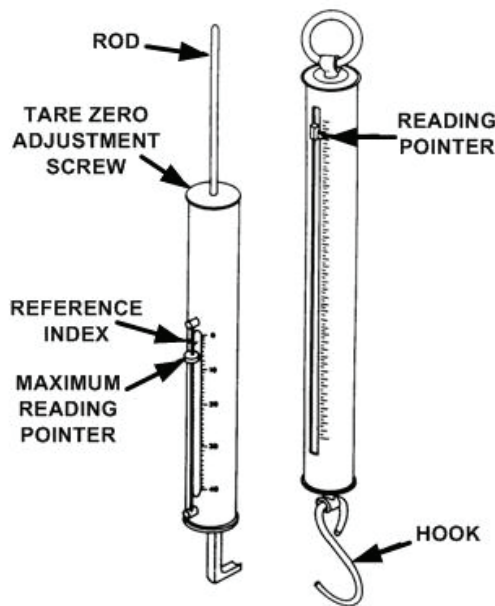

Figure 1. Typical resiliency testers.
**1. Test Instrument Identification.** This bulletin provides instructions for the calibration of Resiliency Testers (General) (figure 1). The manufacturer's manual was used as the prime data source in compiling these instructions. The equipment being calibrated will be referred to as the TI (test instrument) throughout this bulletin.
(1) Adjust tare zero adjustment screw (fig. 1) for a zero indication on TI.
(2) Remove pin from torque calibrator for weights up to 20 pounds, or for weights between 20 and 150 pounds and separate weight carrier assembly from the torque calibrator. Only the weight carrier will be required.
(3) Note weight of carrier.
(4) Obtain a 6 inch length of line or wire capable of supporting total weight to be used in calibrating TI.